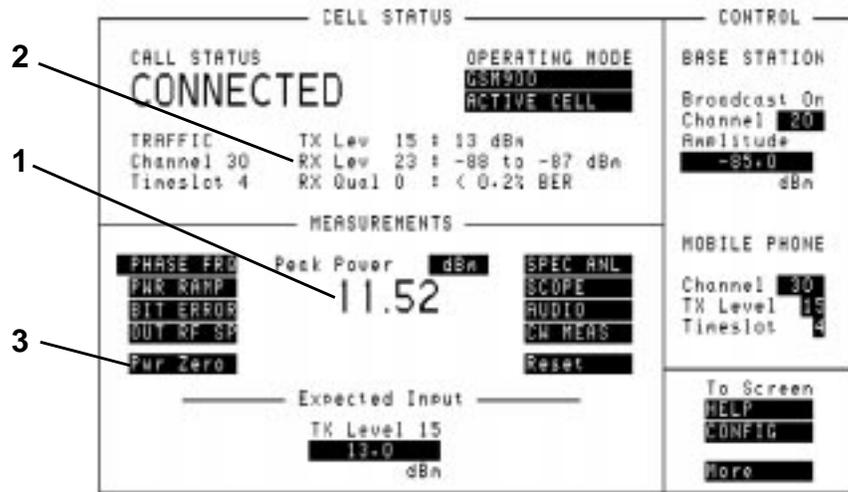

Figure 2-6
Select the **Pwr Zero** field, disconnect external source and lower BCH power, (3), see Figure 2-6 on page 2-14, to zero the power meter before any signal is applied.
Below the CALL STATUS area of the cell control screen are reports from the mobile phone. These appear only when using Active Cell. They indicate the TX Level which the phone is transmitting and the RX Level and RX Quality of the received signal, (2), see Figure 2-6 on page 2-14.